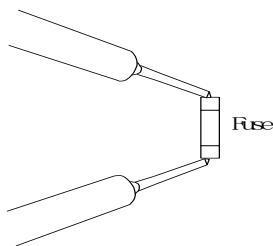

Fig 2
- 2) Check for continuity by a multimeter as shown in Fig.2.